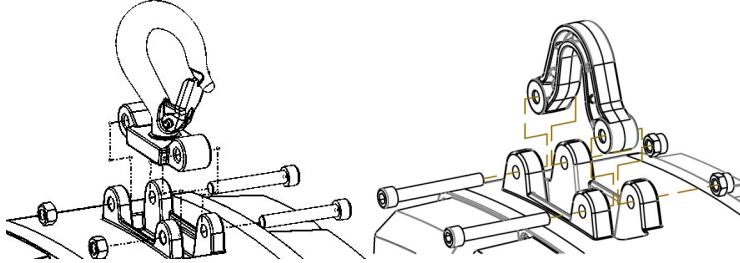

Figure 1-A
1. Before using the hoist, ensure the mounting hardware is attached as pictured in Figure 1-A